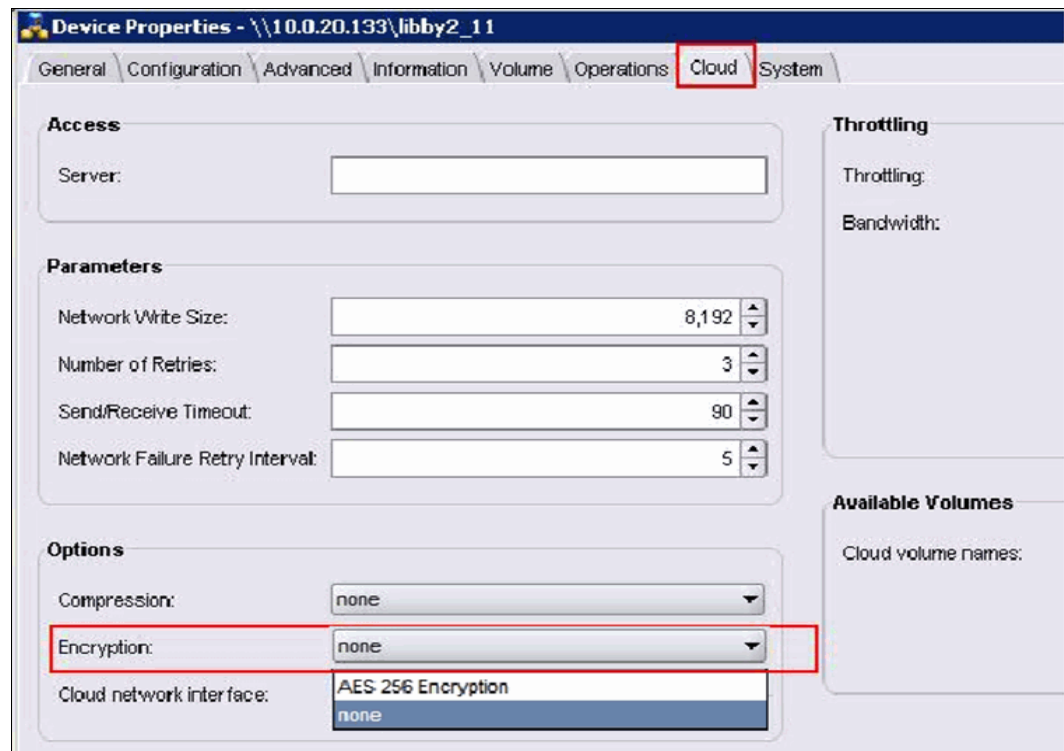

Figure 15-2 Device Properties window: disable encryption
5. In the Device Properties window, click the **Cloud** tab (Figure 15-2 on page 228).